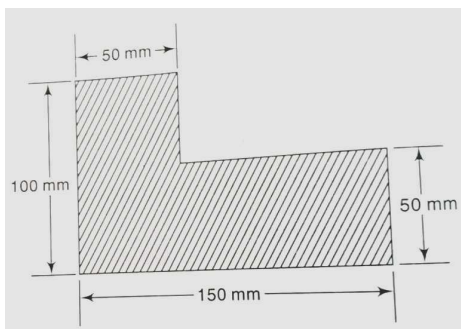

Figure 3.6
- Locate the centroid of the shaded area shown in Figure 3.6